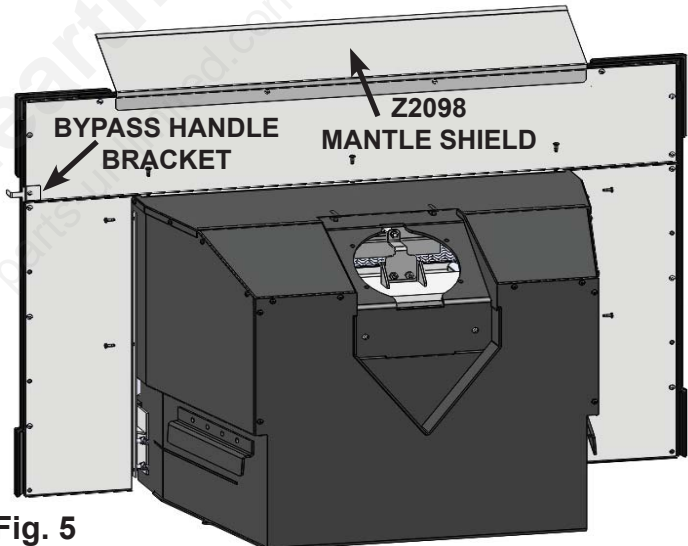

Fig. 5
6. Slide shroud down behind front cast and fasten to firebox with seven #8 x 1/2 screws. The bypass door handle bracket can be screwed to either side of the shroud. If the mantle shield is being used it should be installed at this time using the top two screws of the shroud. (Fig. 5)